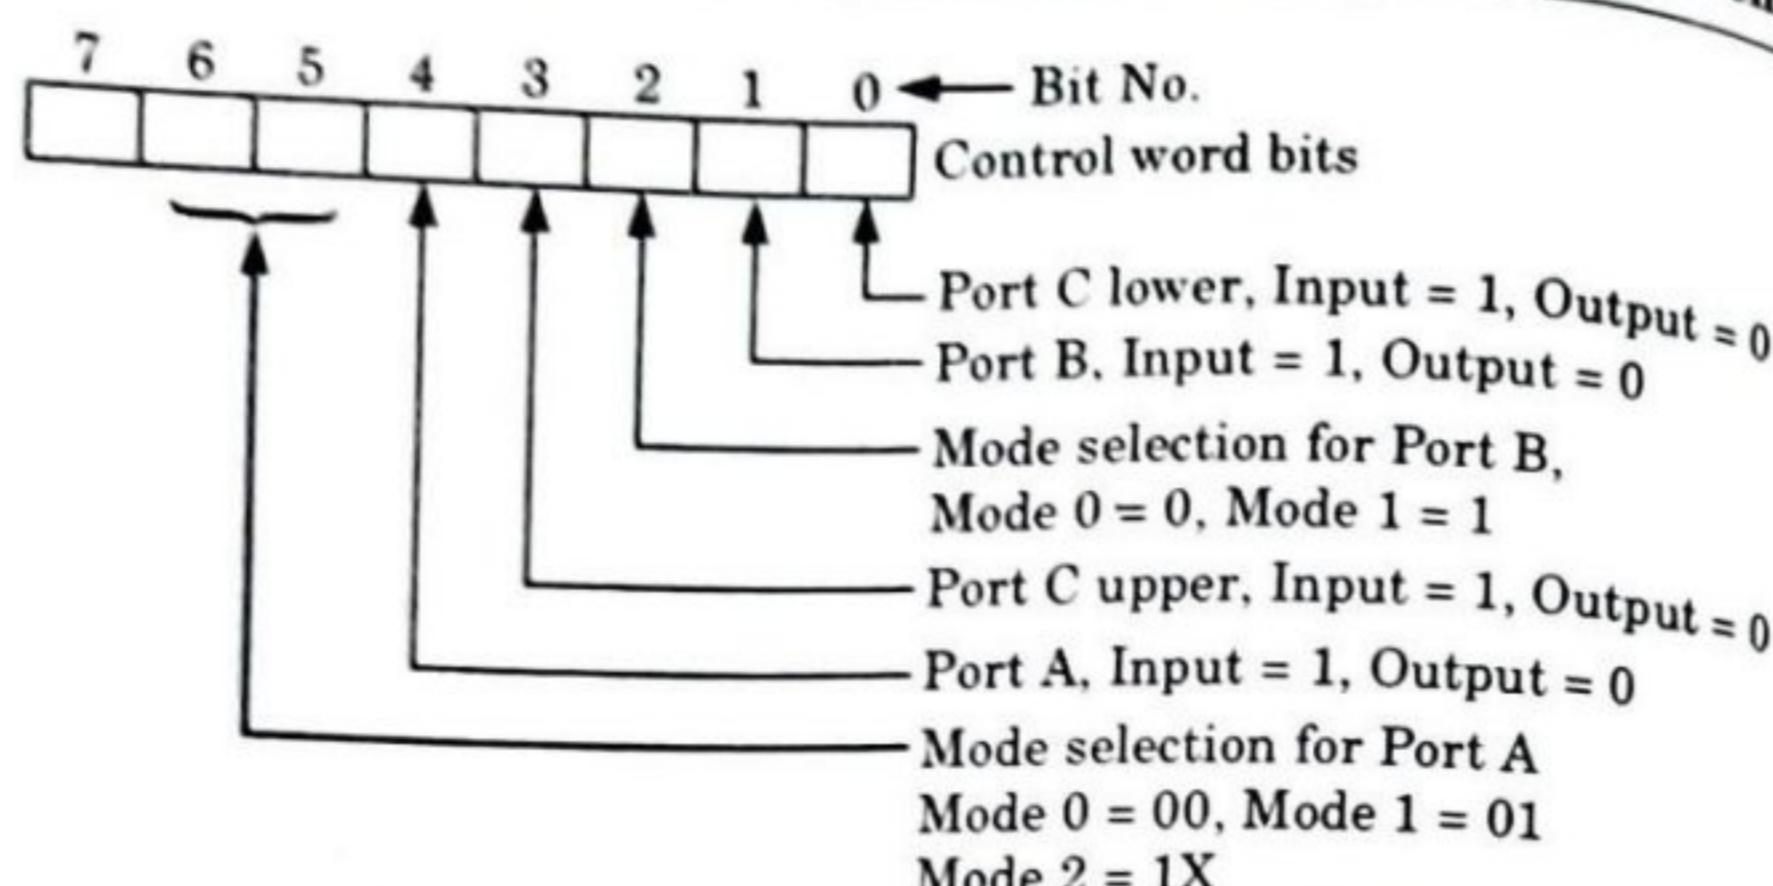

Fig. 5.9.1. Control word bits for Intel 8255.
1. According to the requirement a port can be programmed to act either as an input port or an output port. For programming the ports of 8255 a control word is formed. The bits of the control word are as shown in Fig. 5.9.1.